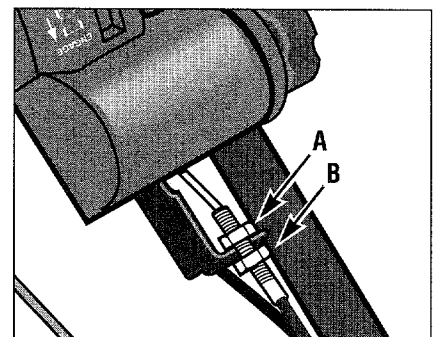
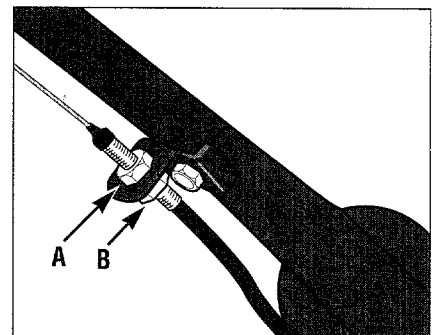
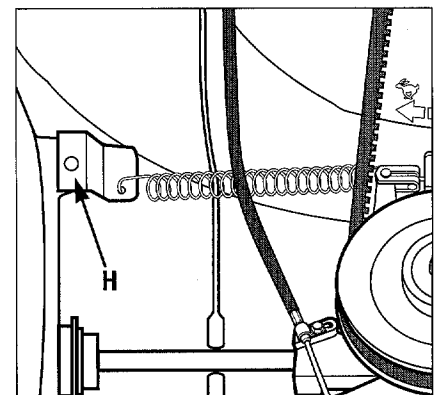

Figure 5-4: Cable adjustment nuts (on all variable speed models except Models 34311 and 34328).
Figure 5-5: Cable adjustment nuts on Models 34311 and 34328.
Figure 5-6: Use cover screw to temporarily hold spring retaining bracket in place.
D. Temporarily install one of the deck cover Phillips screws into the spring retaining bracket (see **H**, Figure 5-6 on page 32).
C. Using two 1/2-inch wrenches, loosen the wheel drive cable adjustment nuts (**A** and **B**) that are shown in Figure 5-4 (all models except Models 34311, 34313 and 34328) or Figure 5-5 (Models 34311, 34313 and 34328).
D. Using two 1/2-inch wrenches, loosen the wheel drive cable adjustment nuts (A and B) that are shown in Figure 5-4 or Figure 5-5.
E. Unthread the lower nut (B) a total of six full turns.
F. Thread the upper nut (A) down until the upper nut and the lower nut (B) touch the cable bracket.
H. Temporarily install one of the front deck cover Phillips screws into the spring retaining bracket (H, Figure 5-6).
J. Using two wrenches, tighten both cable adjustment nuts (Figure 5-4 or Figure 5-5) against the bracket.
- (5.) Using wrenches, prevent the adjustment nut (D) from turning and securely tighten the pal nut (E) in a clockwise direction.
- (6.) Return to the cable adjustment nuts (Figures 5-4 or 5-5) and unthread the upper nut (A) 2 to 3 full turns. Tighten the upper and lower nuts securely against the cable bracket.
- (7.) Put the Wheel Drive Lever (or Wheel Drive Control Bar) in the DISENGAGE position, lift the front of the mower, and try to rotate the front wheels by hand. They should turn. If the wheels do not turn, thread the upper and lower adjustment nuts (Figures 5-4 or 5-5) downward 2 to 3 full turns. Repeat this step as needed until the wheels turn.
- (8.) Put the Wheel Drive Lever (or Control Bar) in the ENGAGE position and try to turn the wheels. They should not turn. If they do, thread the upper and lower adjustment nuts (Figures 5-4 or 5-5) upward 2 to 3 full turns. Repeat this step as needed until the wheels do not turn.
- (9.) Reinstall the plastic thread protector (C).
C. Temporarily install one of the cover screws into the spring retaining bracket (**H**, Figure 5-6).